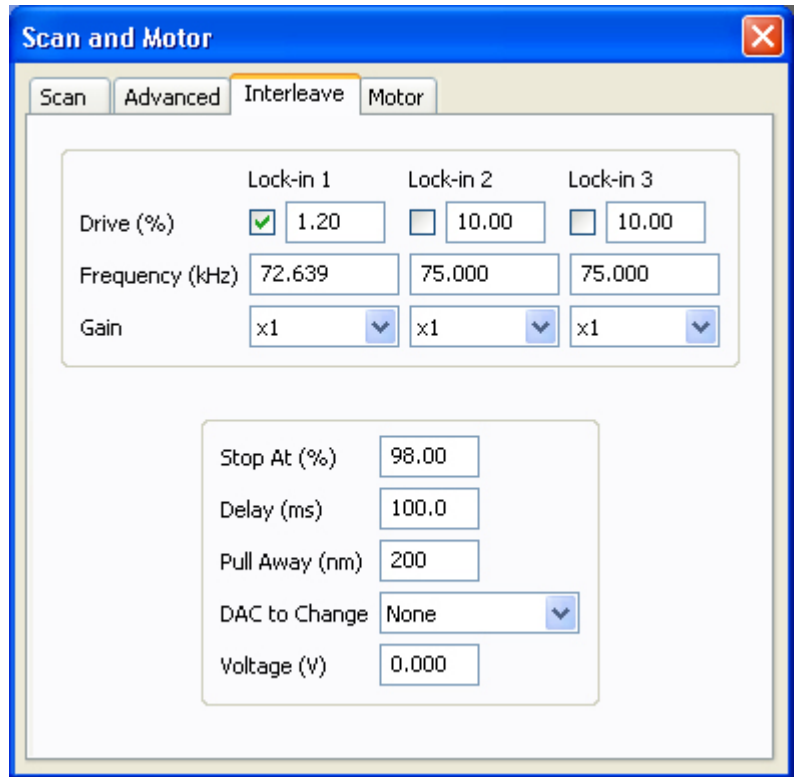

Figure 104 Interleave tab used for MFM imaging
Set up the Interleave parameters. In the Scan and Motor window, click on the **Interleave** tab (Figure 104).
- c Enter the Drive (%) value from the ACAFM Controls dialog box into the Interleave Drive (%) (**Figure 104**) for MFM imaging.